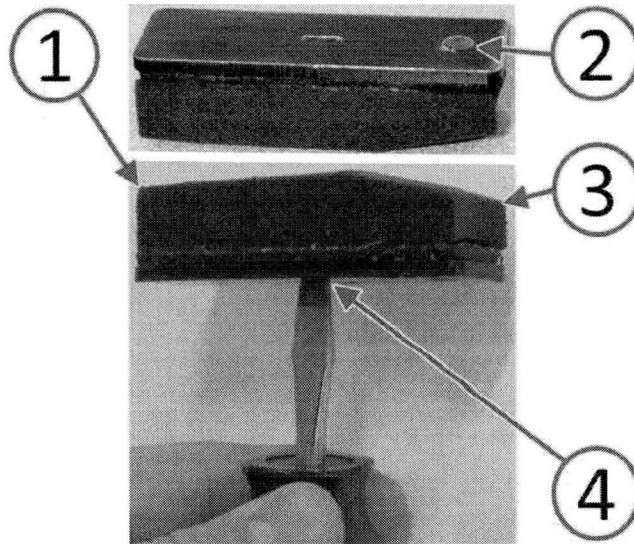

Fig. 5 Roof Spacer Feature Identification
7. Insert a #2 flat blade screw driver into the roof spacer positioning slot (4) (Fig. 5).
8. When the roof spacer is correctly positioned in the vehicle, the square end of the roof spacer (1) must face toward the bodyside aperture flange toward the door frame. The tapered end of the roof spacer (3) identified on the underside by hole (2) must face toward the sunroof reinforcement ring toward the sunroof (Fig. 5).